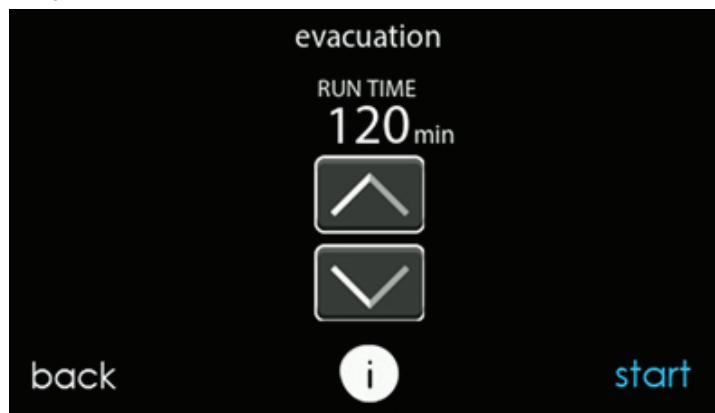

Fig. 23 – Evacuation Setup Screen
3. Set desired time period. Default time period for the procedure is 120 minutes. See Fig. 23.